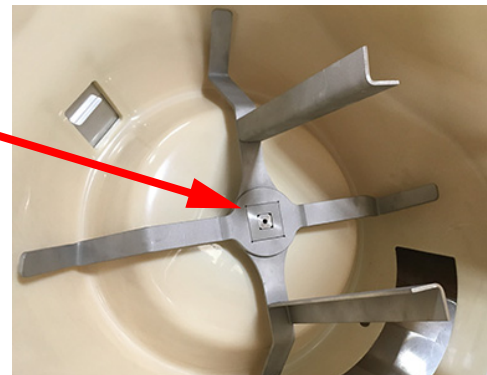

Figure 27
6. Then, place the top agitator in place over the bottom agitator making sure the two agitator components are seated properly as shown in Figure 27.